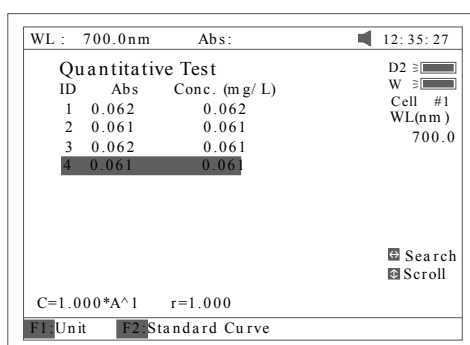

Fig 38
- Pull the sample cuvette into the light path, press the key [**START**], the results will be displayed on the screen (Fig 38). If there is more than one sample, repeat for the next sample.